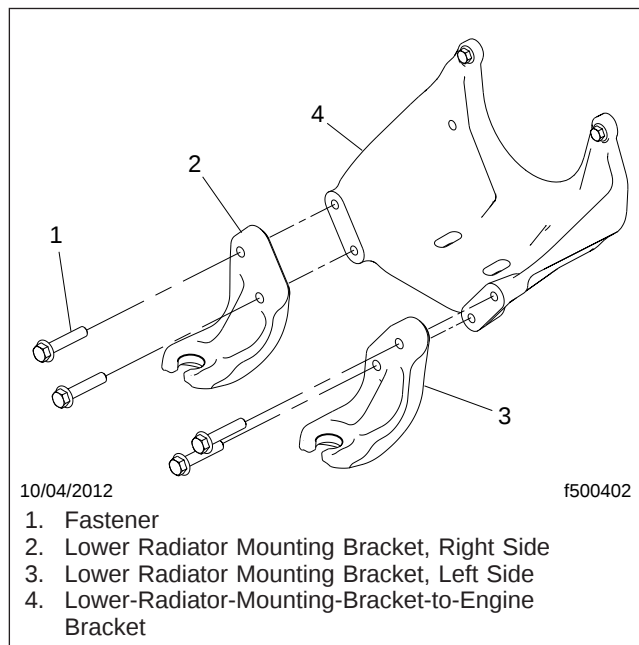

Fig. 6, Lower Radiator Mounting Brackets Installation
22. Install the new lower radiator mounting brackets. See Fig. 6. Tighten 191 to 234 lbf·ft (260 to 317 N·m).